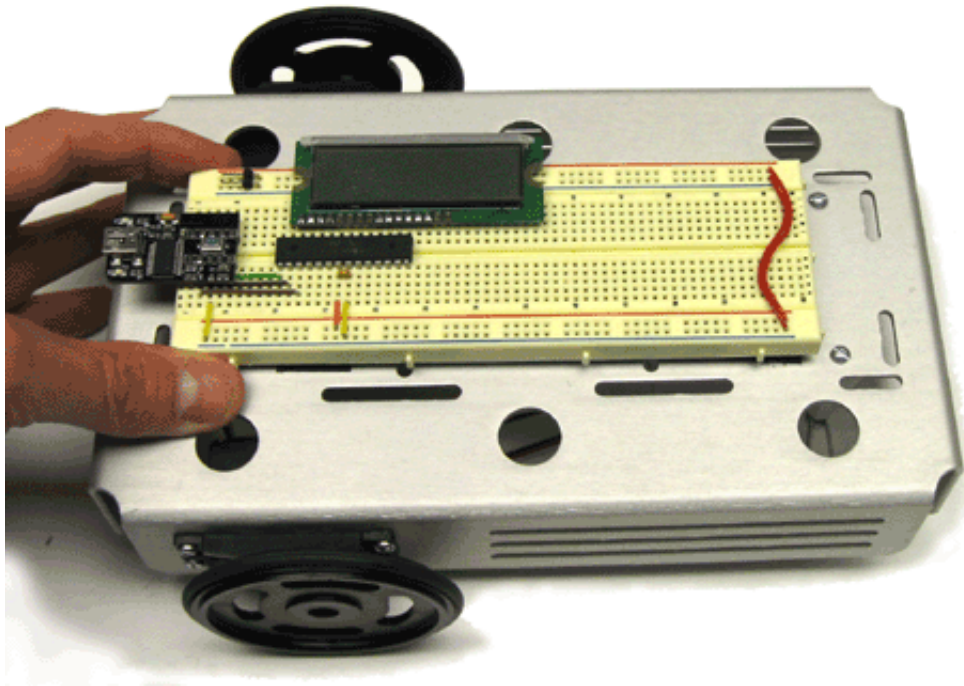

Figure 10. Positioning the ATmega Board.
- 3. Peel the backing from the velcro, and press the ATmega Board onto the robot chassis, as shown in Figure 10. Align the board's front edge with the holes where the standoffs protrude through the chassis.**